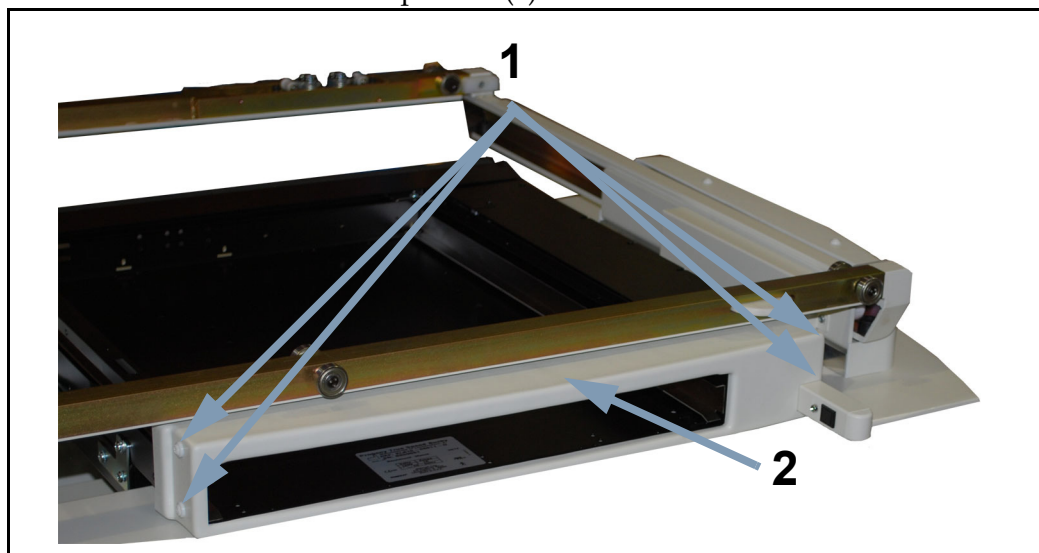

Figure 2-14. Bucky Top Covers
- 29 Unscrew the four cover screws (2 on each side) (1 in Figure 2-14) and remove the top cover (2).